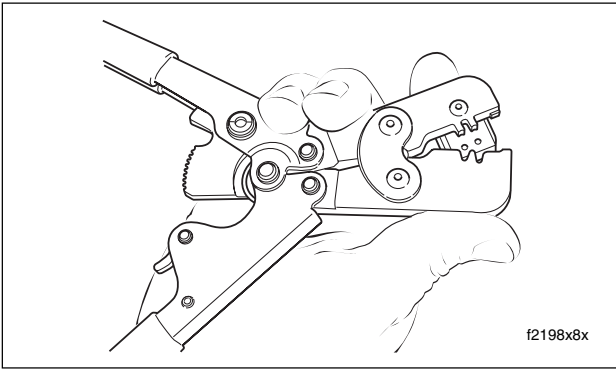

Figure 8-47. Raise Locking Bar and Barrel Holder
5. Raise locking bar and barrel holder by pushing up on bottom tab with index finger. See Figure 8-47.